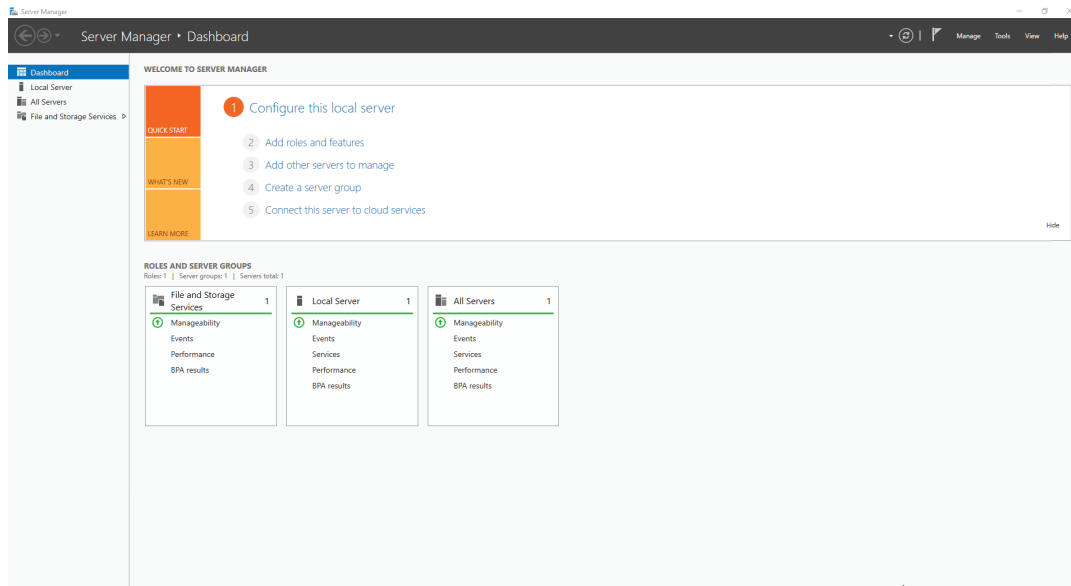

Figure 1 – Add Roles and Features
2. Select the **Add Roles and Features** link (Figure 1).